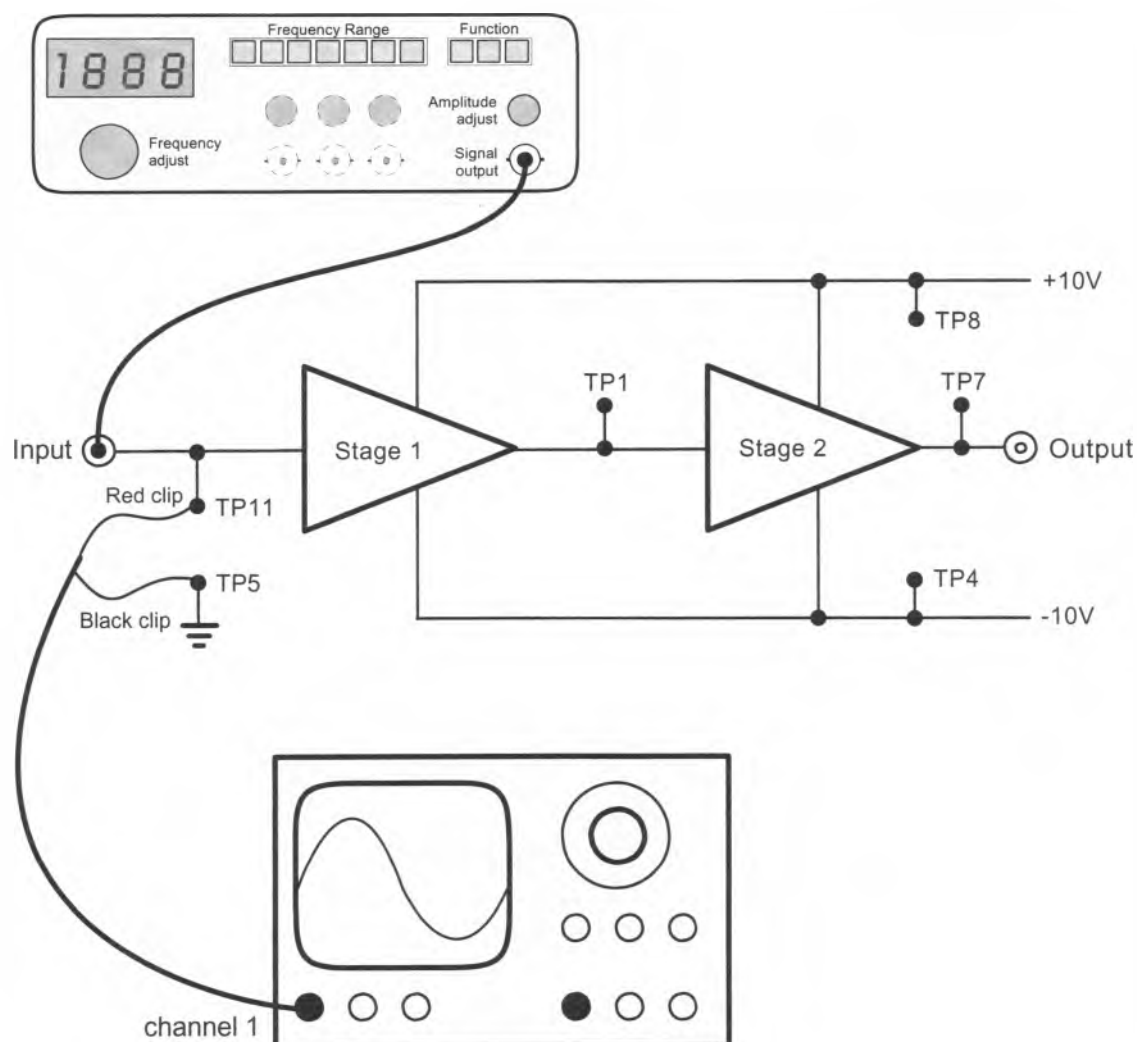

Figure 2
16. Connect the CRO's channel 1 to the input of the first amplifier stage (**TP11**) as shown in Figure 2 below.